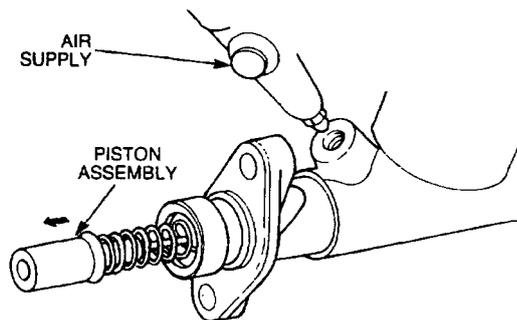

Figure 144 Removing the Piston Assembly
- Remove the piston assembly from the master cylinder (Figure 144). If necessary, gradually apply air at low pressure to the outlet port to expel the piston.